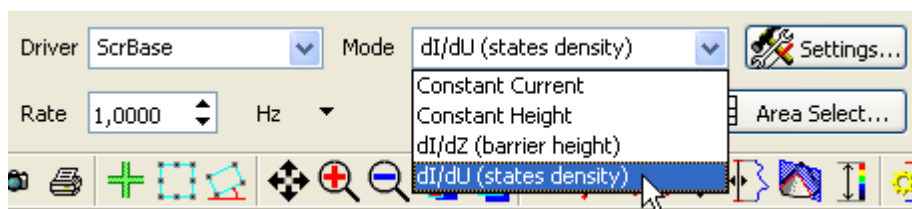

Fig. 10-30
2. In the **Mode** drop-down list, select the **dI/dU (states density)** mode (Fig. 10-30).